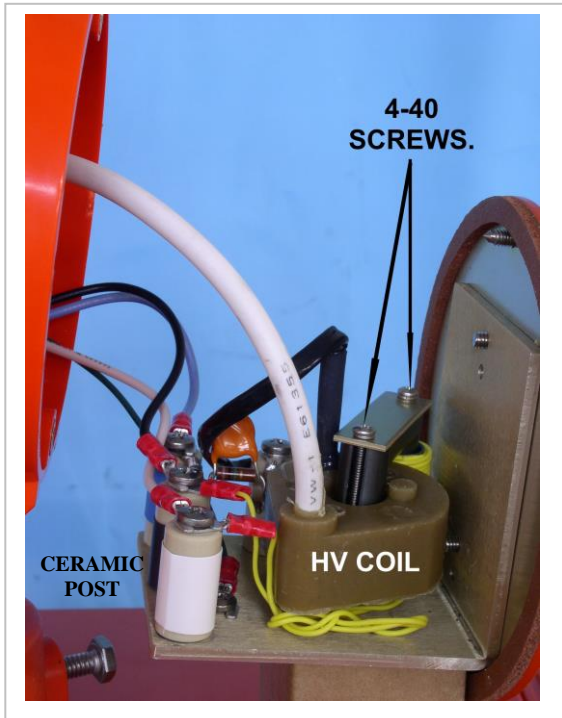

Figure 14a
The trigger transformer is an open frame assembly consisting of a primary coil, a potted high voltage (HV) secondary coil, a ferrite core, and assembly hardware. The entire assembly is held to the flash tube bracket by two 4-40 Phillips head screws (see Figure 14a). It is generally unnecessary to replace the entire transformer assembly if a problem develops. A replacement kit (255-20027) is available that consists of a potted secondary HV coil and two ferrite C-cores.
- Disengage the two captive screws from the main body of the housing, allowing the rear plate to be opened as shown in Figure 14a.
- Remove the two 4-40 Phillips-head screws (identified in Figure 14a) that hold the trigger transformer to the bracket.